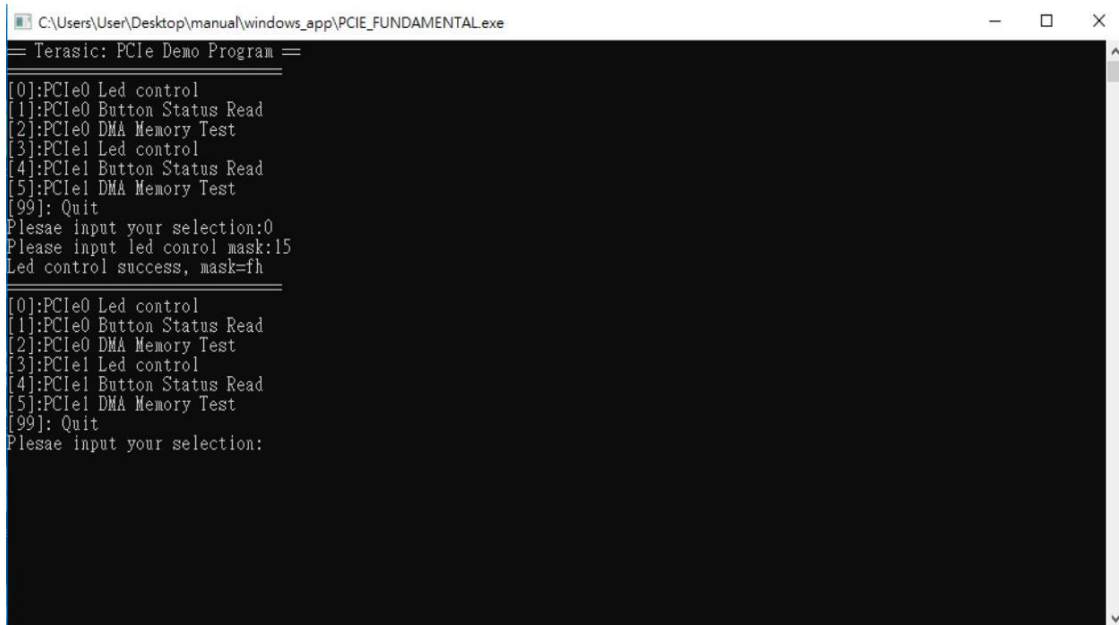

Figure 6-27 Screenshot of PCIe0 LED Control
8. Type 0 followed by a ENTERY key to select **PCIe0** Led Control item, then input 15 (hex 0x0f) will make all **User LED** lighten as shown in **Figure 6-27**. If input 0(hex 0x00), all **User LED** will be turn off.